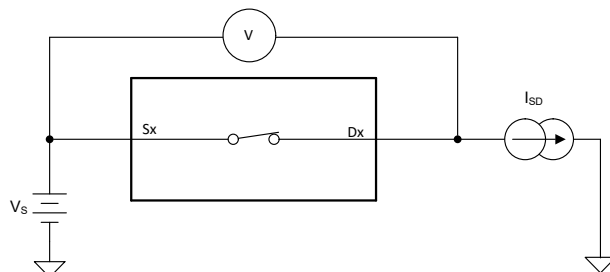

图 6-1. On-Resistance Measurement Setup
The on-resistance of a device is the ohmic resistance between the source (Sx) and drain (D) pins of the device. The on-resistance varies with input voltage and supply voltage. The symbol  $R_{ON}$  is used to denote on-resistance. 图 6-1 shows the measurement setup used to measure  $R_{ON}$ . Voltage (V) and current ( $I_{SD}$ ) are measured using this setup, and  $R_{ON}$  is computed with  $R_{ON} = V / I_{SD}$ .